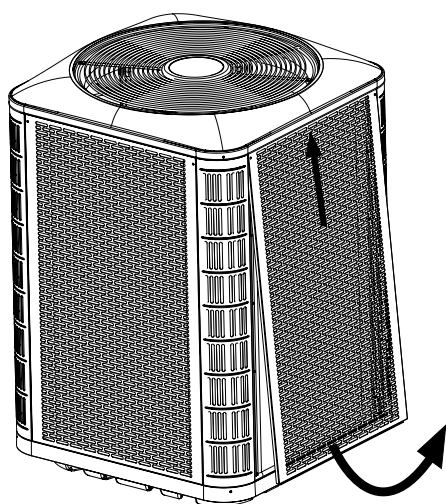
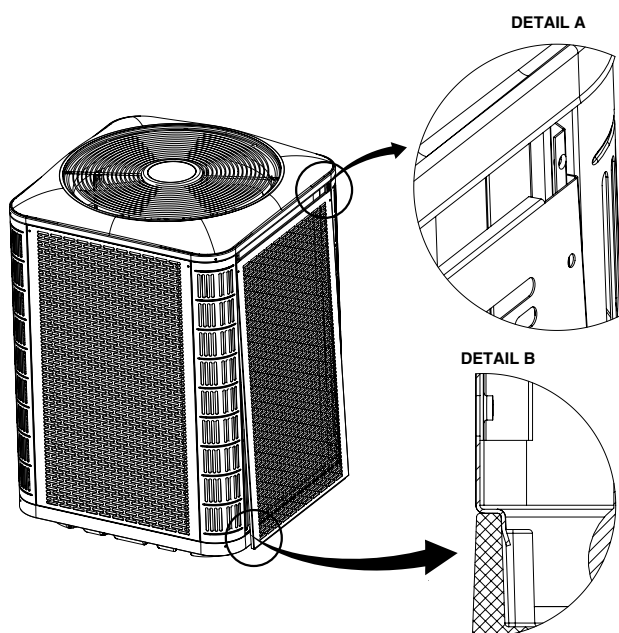

Figure 2. Panel Removal
Figure 3. Panel Installation
- To access the internal components of the unit, refer to Figure 2, \(page 6\) for panel removal and Figure 3, \(page 6\) for panel installation.
2. Slide the panel up towards the top pan in order to clear the bottom flange from the base pan. See Figure 2.
1. Insert the top corners of side panel flanges into the corner post channels as shown in Detail A in Figure 3.